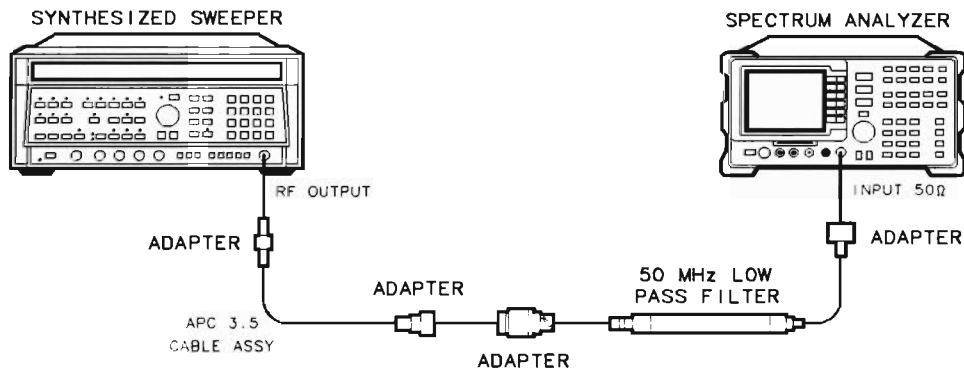

Figure 2-45. Second Harmonic Distortion Test Setup
2. Connect the equipment as shown in Figure 2-45.